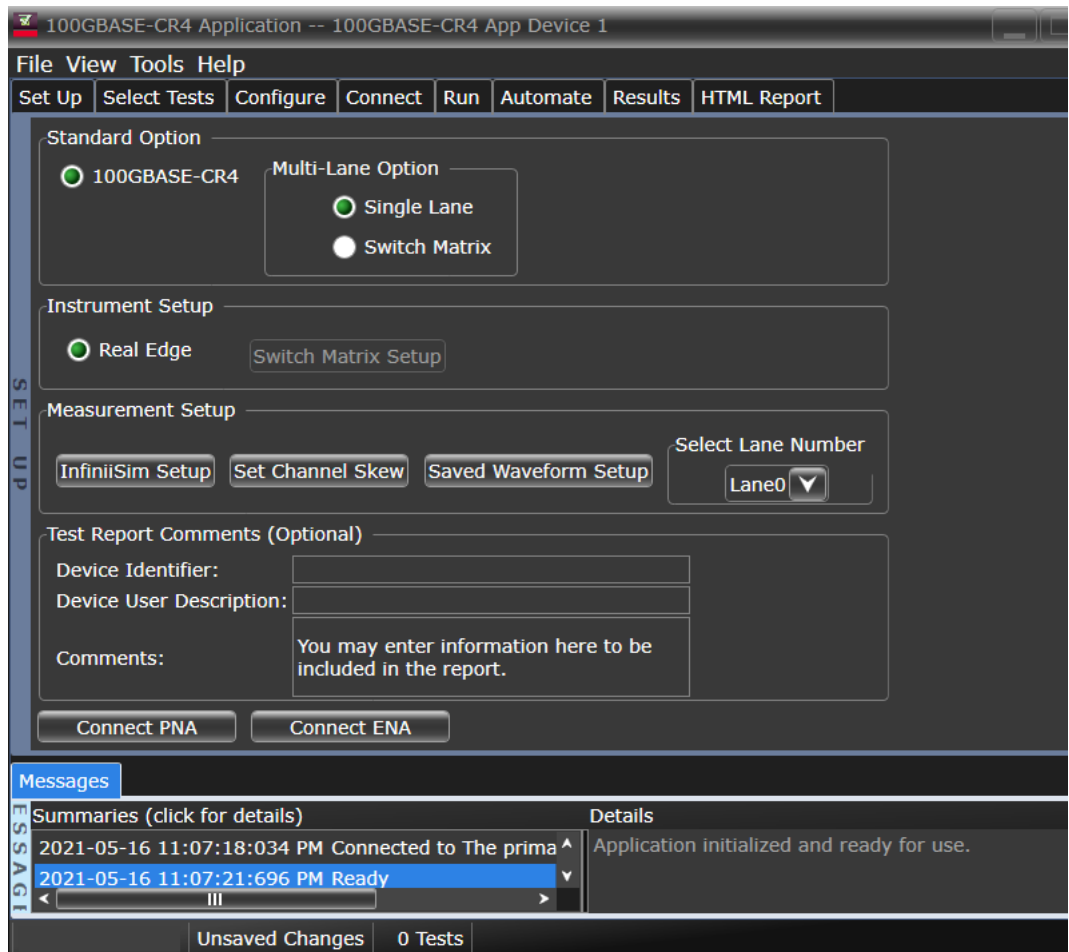
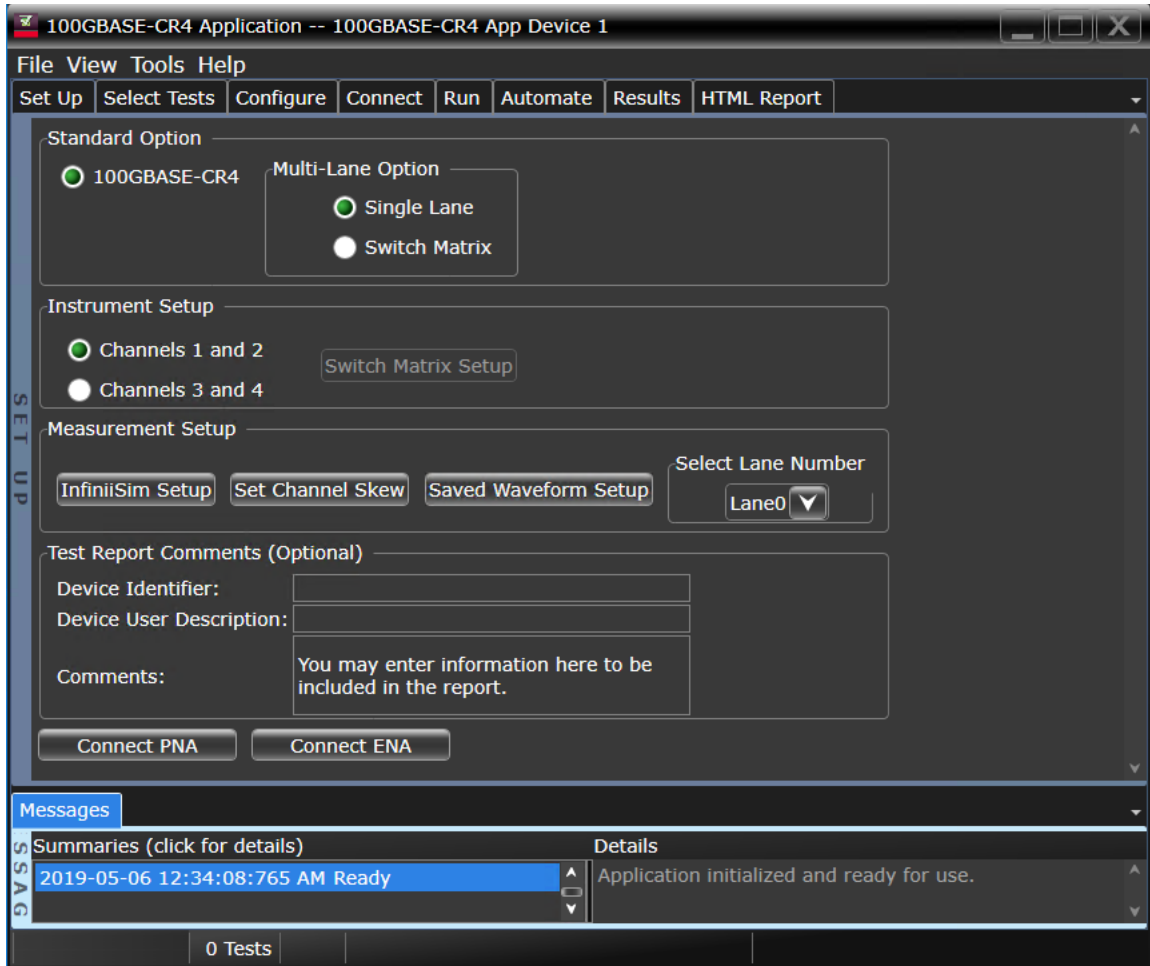

Figure 5 100GBASE-CR4 Test Application main window on a Z-Series Oscilloscope
Figure 6 100GBASE-CR4 Test Application main window on a UXR Oscilloscope
- **Figure 5** shows the Keysight D9010BJCC 100GBASE-CR4 Test Application window as it appears when launched within the Infiniium application of the DSO Q-Series Oscilloscope. The Instrument Setup area in the Set Up tab displays Real Edge, which indicates Channels 1R and 3R on the oscilloscope.
- **Figure 6** shows the Keysight D9010BJCC 100GBASE-CR4 Test Application window as it appears when launched within the Infiniium application of the UXR Oscilloscope. The Instrument Setup area in the Set Up tab displays the corresponding Channel assignments.
- 1 In the **Set Up** tab (shown in Figure 5 and Figure 6), select a **Multi-Lane Option** to determine the lane where the tests must be performed for the 100GBASE-CR4 standard.
- 4 In the **Connect** tab, view the instructions along with the connection diagram to ensure that all requirements for the physical setup of the testing instruments and the DUT are met. Click **Connection Completed** to indicate to the Test Application that the required hardware setup is complete. The connection diagram for most of the tests matches the one shown in Figure 5 for DSO-Q Series Oscilloscopes and Figure 6 for UXR Series Oscilloscopes. However, it is a good